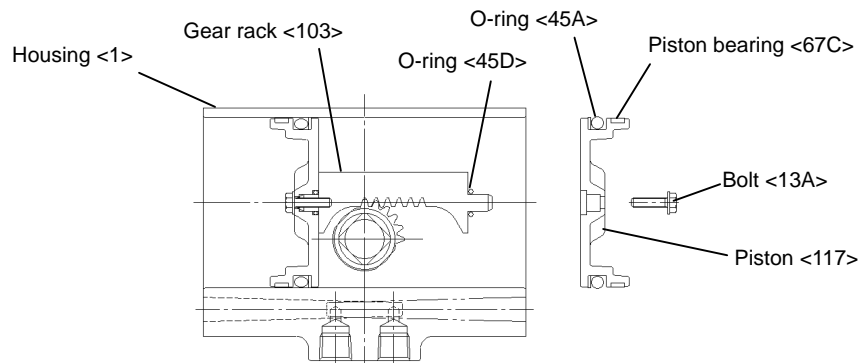

Fig.9
(7) Loosen a hexagon headed bolt and remove a piston from the housing, by picking an outside rib with pliers (Fig.9).